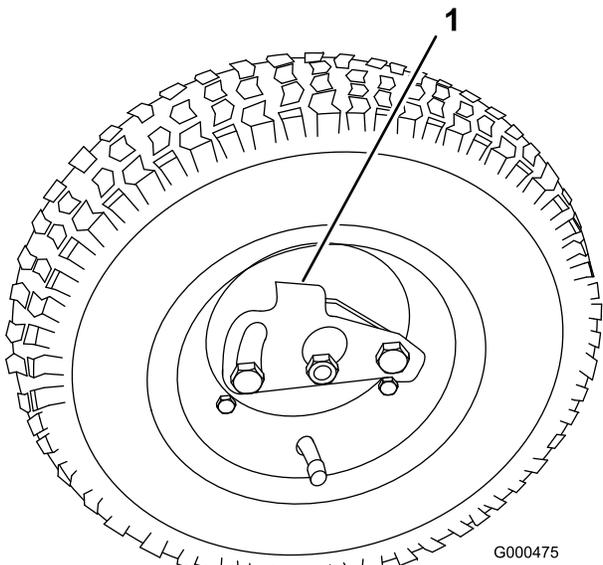

Figure 14
2. Press wheel locking clip toward the center of wheel and slide wheel onto hex shaft (Figure 14).